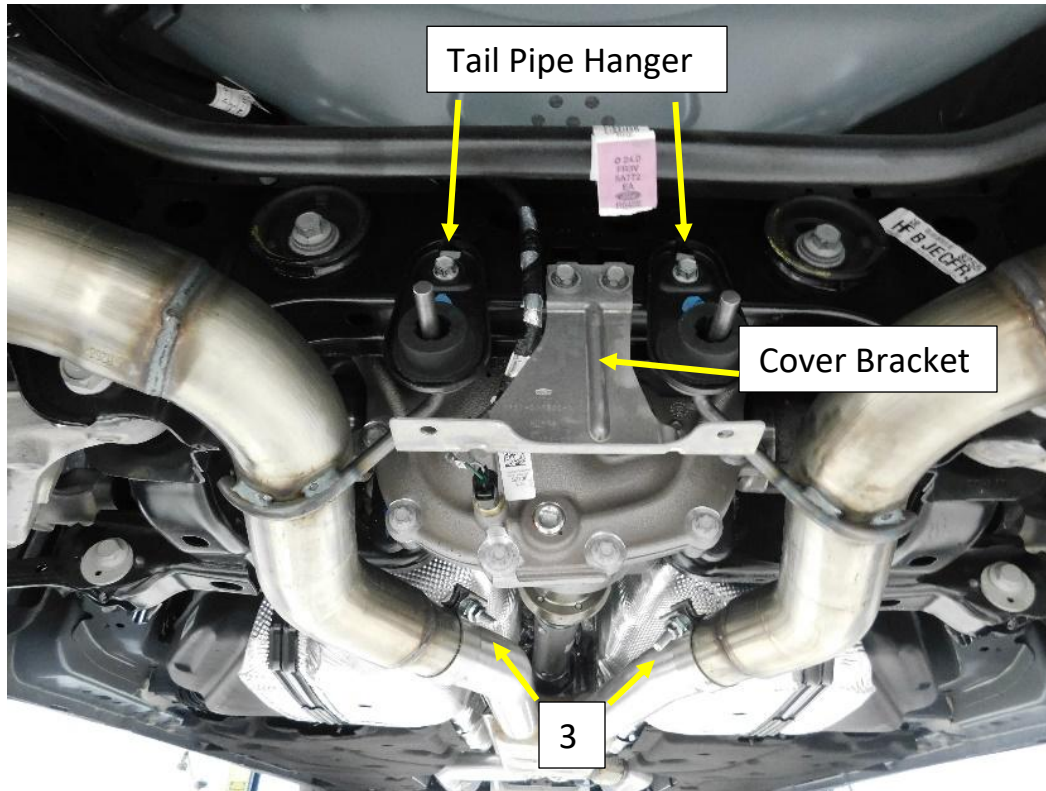

Figure. 10
7. Install the tailpipe hanger assembly on to the Flowmaster hanger Rod, align the bolt hole and frame clip. Install And tighten the mounting bolt. **Fig.10**
9. Install the rear cover mounting Bracket and bolts. **Fig.10**
10. Tighten the 2.5" band clamp (3) to allow for adjustment. **Fig.10**
12. Check all clearances and tighten the band clamp (3) fully.